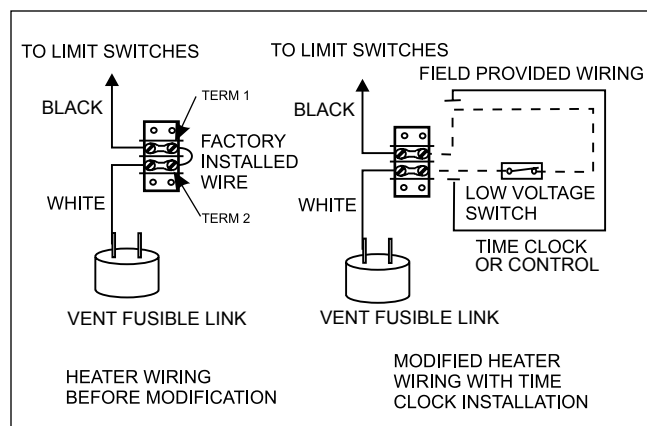

Figure 15. Fireman's Switch or Control Connection
1. Remove heater door. See Figure 15
2. Remove the factory installed wire between terminals 1 and 2 on the terminal strip. See Figure 15